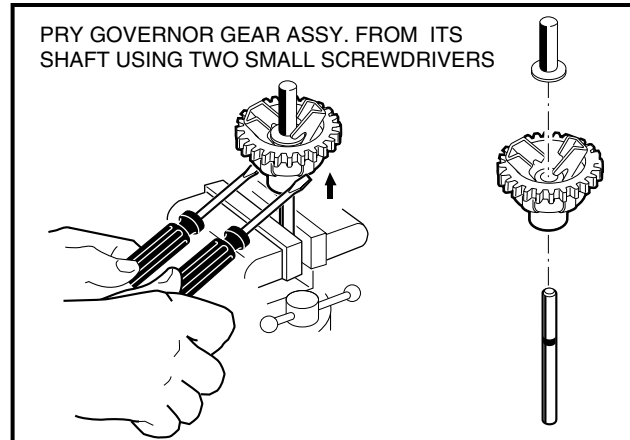

FIGURE 10-45
1. Secure the governor gear assembly in a vise as shown (**Figure 10-45, Page 54**).
2. Use two small screwdrivers to pry the gear and fly-weight off of the shaft as shown (**Figure 10-45**).